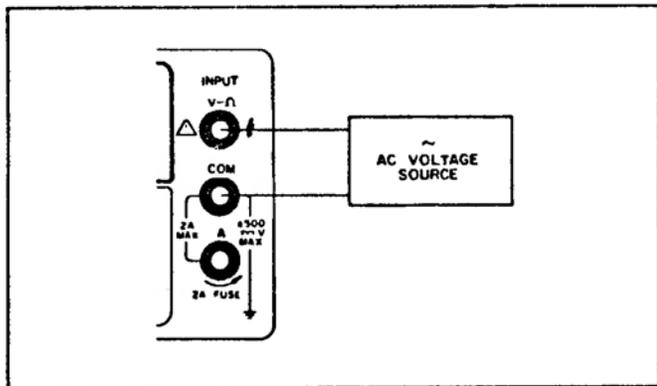

Figure 3-6. AC Voltage Measurement
- c. Connect test leads from the Multimeter VΩ (high) and COM (low) terminals to the voltage under test as shown in Figure 3-6.